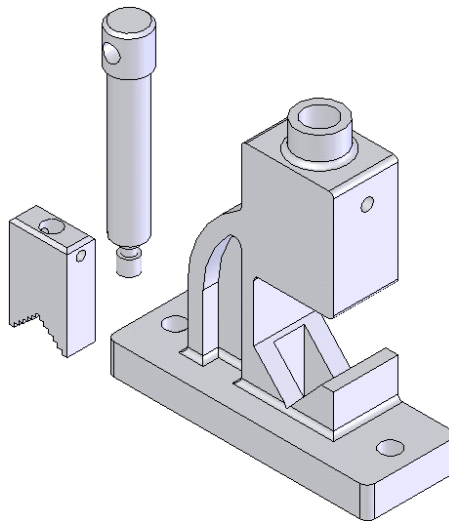

Figure 10-78 The Moveable Jaw and Screw placed in the assembly document
- Place the Moveable Jaw and the screw in the assembly. Apply the mates between Moveable Jaw and the Screw, refer to Figures 10-78 through 10-80.
3. Similarly, place the screw in the assembly document. Figure 10-78 shows the Moveable Jaw and screw placed in the assembly document.